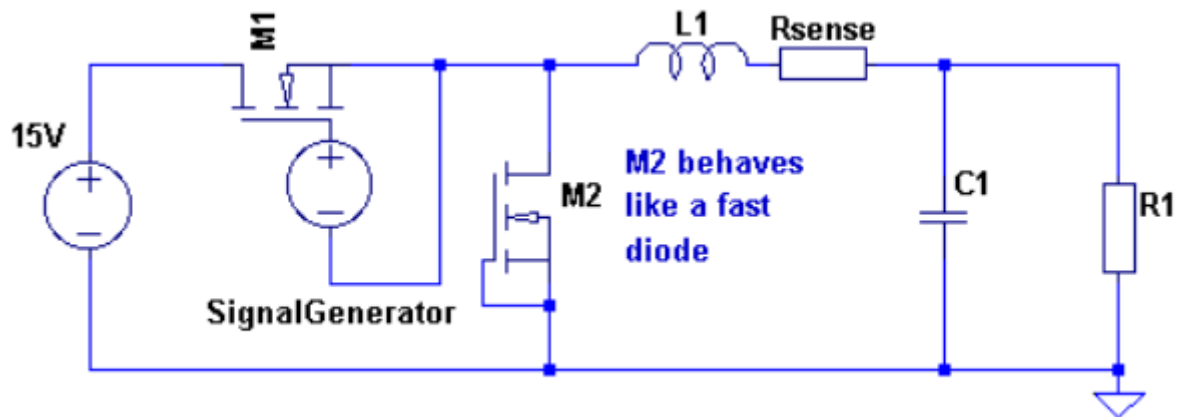

Figure 1
- 1) Construct the circuit shown in Figure 1 above.